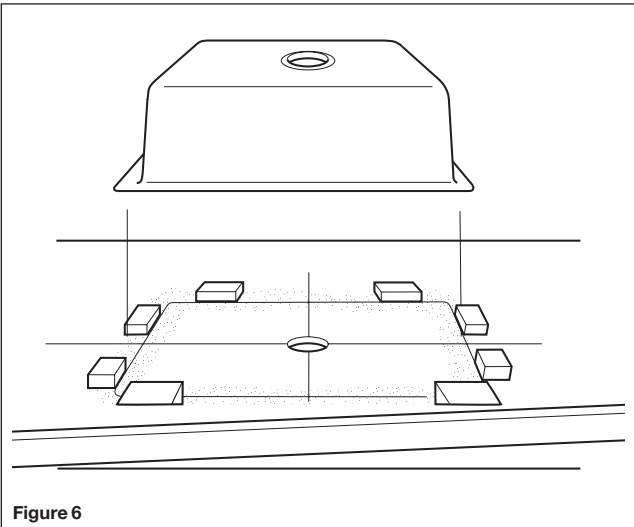

Figure 6
- Adhere hot melt glue blocks in strategic locations around the outside perimeter of the scratched-in sink profile to keep the sink from moving off-center when bonding. (See Figure 6)